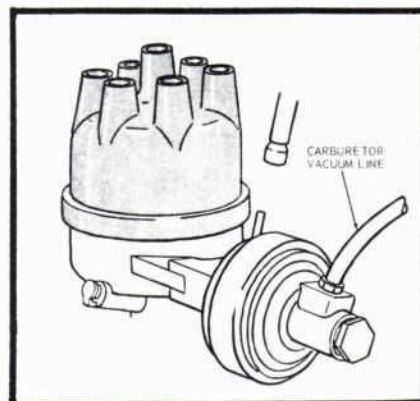

Figure 2—Connect Carburetor Vacuum Line
3. Connect the carburetor vacuum connection to the distributor diaphragm (See Fig. 2). The spark timing should now advance further.